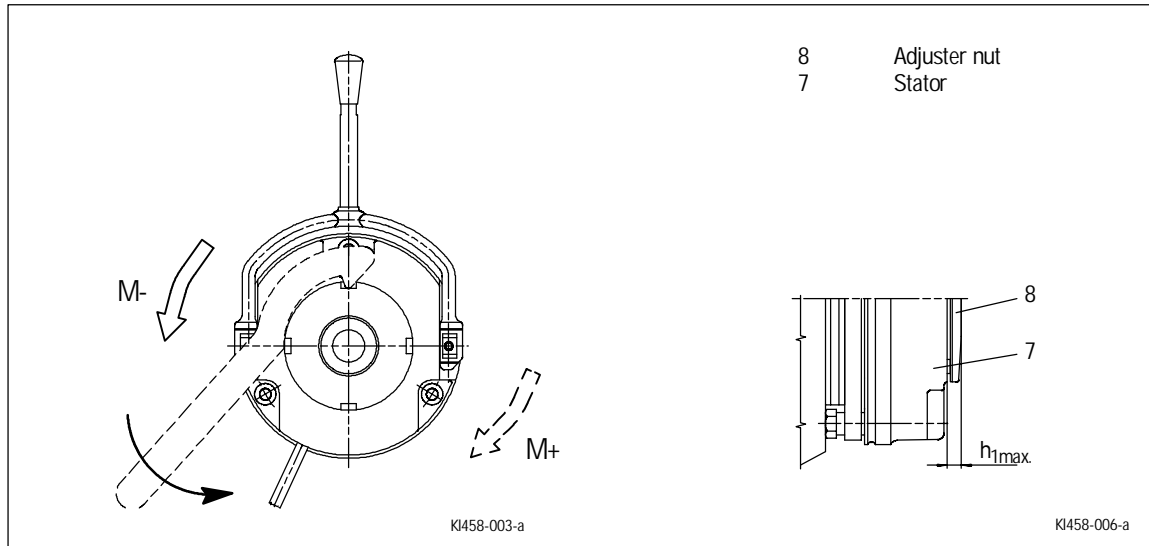

FIG 18
1. Pull the lever (FIG 18) with approx. 150 N towards the motor until the resistances increase strongly.